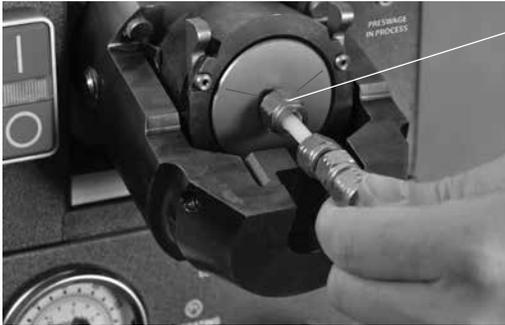

Fig. 13 Loading the Nut and Ferrule Assembly
- 9. Load the nut and ferrule assembly onto the die and raise the retainer up. Fig. 13.